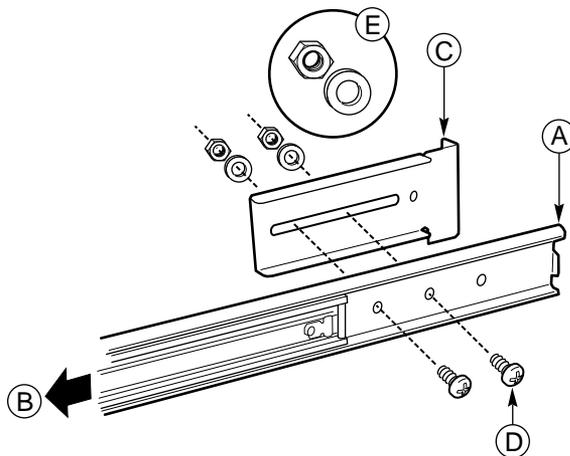

Figure 7 Alignment of Screw, Washer, Locknut, Bracket, and Assembly (FR/RL)
2. Extend the intermediate member out from the outer member so that you have complete access to the rear part of the outer member. Item B in Figure 7 shows the direction in which you must extend the intermediate member. On the right side of the assembly, notice that the three screw holes in the outer member are accessible.
5. Place screws in the two front holes from inside the outer member and loosely tighten with a washer and lock nut. See Figure 7 on page 12 for an illustration of the alignment of the screw, washer, locknut, bracket, and assembly.